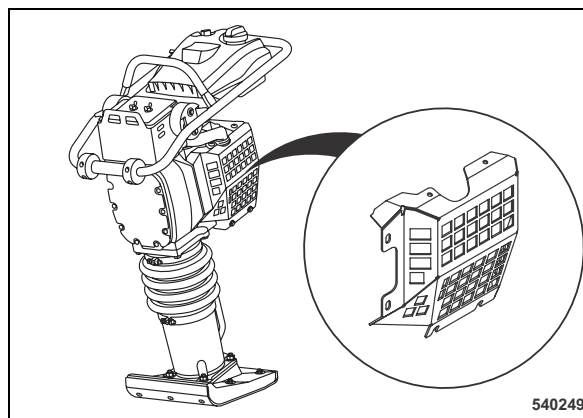

Fig. 73
- Remove the protection grid on the left hand side of the engine (Fig. 73).